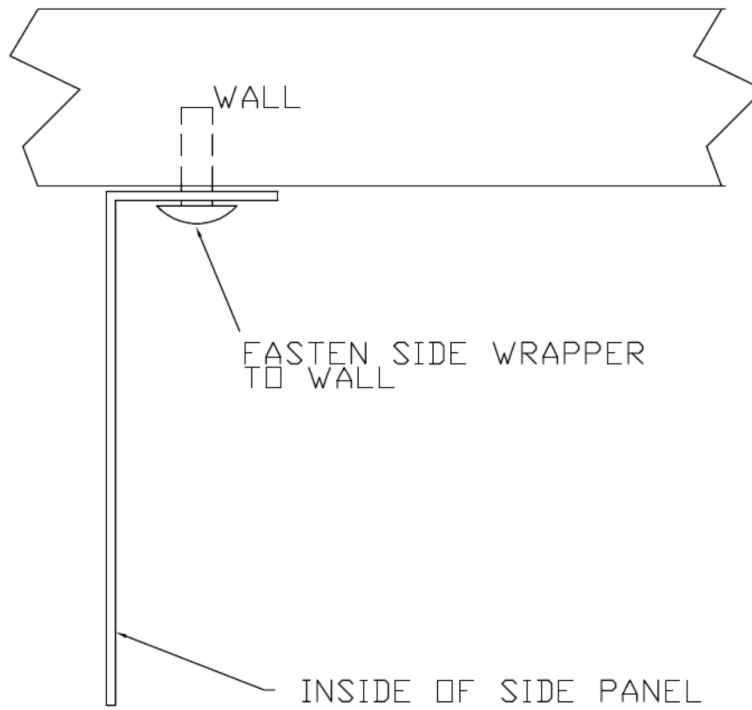

Figure 14C
3. Press fit panel into place until wrapper face is flush with hood face. Screw or pop-rivet wrapper to the side channel and wall. **See Figure 14C: Wrapper Detail and Rear Wall Attachment.**